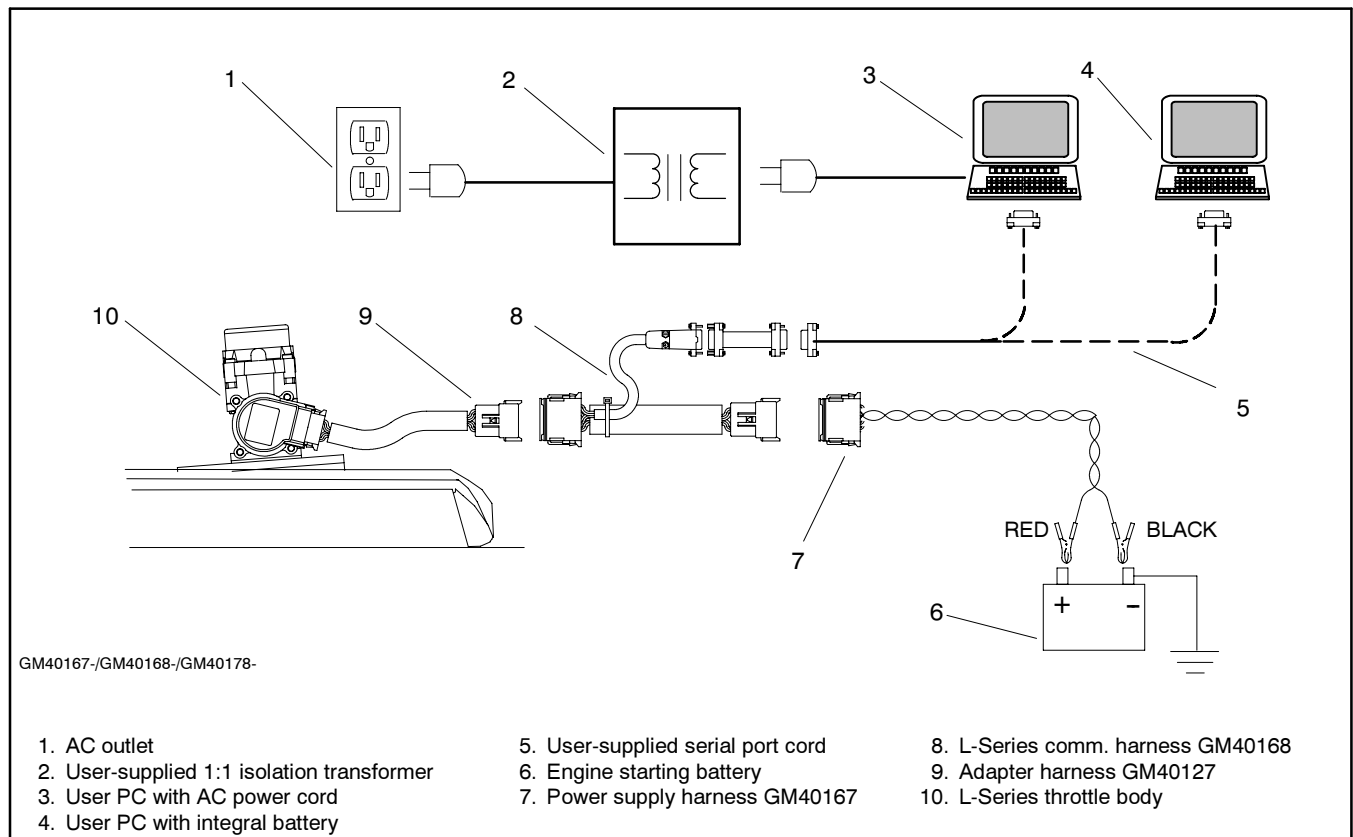

Figure 2 L-Series Throttle Body Communication Kit Connections
- 2.5 Attach the adapter harness GM40127 to the throttle body. See Figure 2. The connector plug is polarized and fits only one way in the throttle body.
Woodward Document #26250 indicates it is possible to run the diagnostic tool while the generator set is running. Do this by unplugging the power supply harness (Figure 2, Item 7) from the L-Series communication harness (Figure 2, Item 8) and connecting the engine harness. The generator set can then be started in the normal manner. See the Generator Set Operation Manual for details.